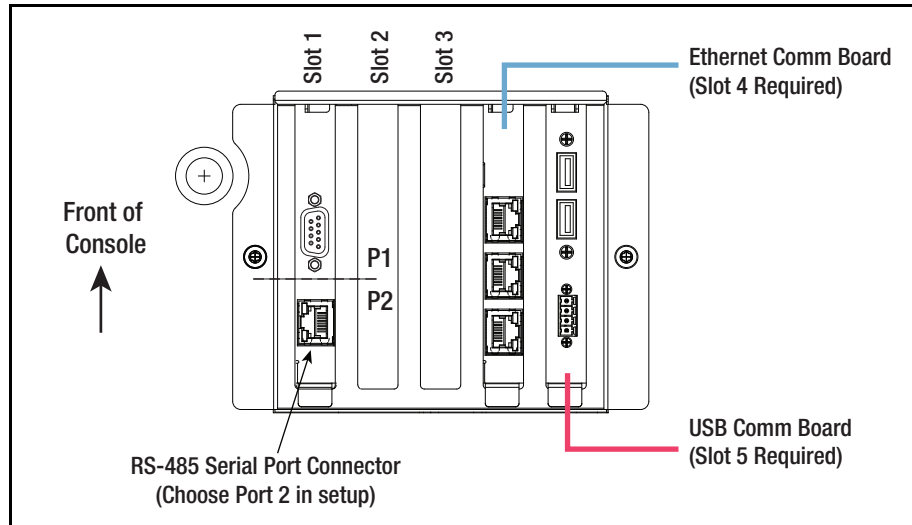

Figure 3. Example RS-485 Serial Port Connection
2. Install the RS-232/RS-485 Dual Interface Module into an available comm module slot 1 or 2 (see slot 1 installation example in Figure 3). Notice the port will be 2.